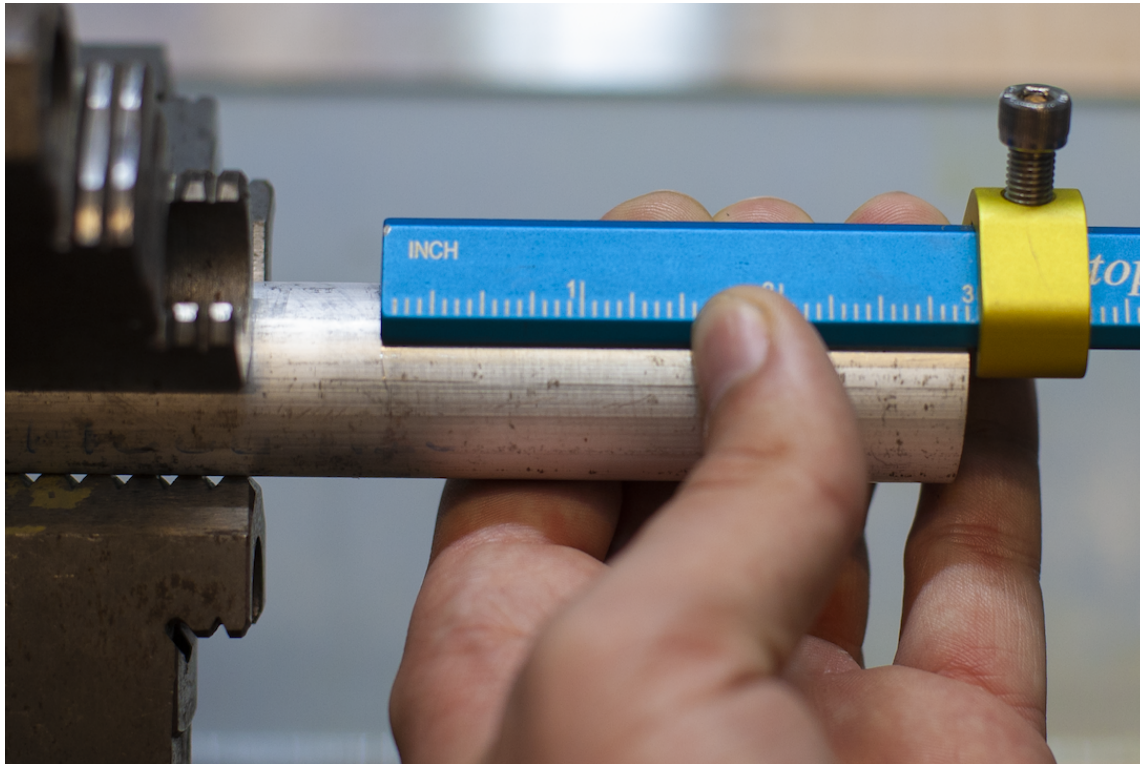

FIGURE 4.4: CHECKING STOCK/CHUCK CLEARANCE WITH THE STOP-LOC.
- Insert and secure the stock in the chuck by evenly closing the jaws using the jaw key, and use the Stop-LocTM to ensure there is a minimum of 3" of stock material from the chuck, Figure 4.4.